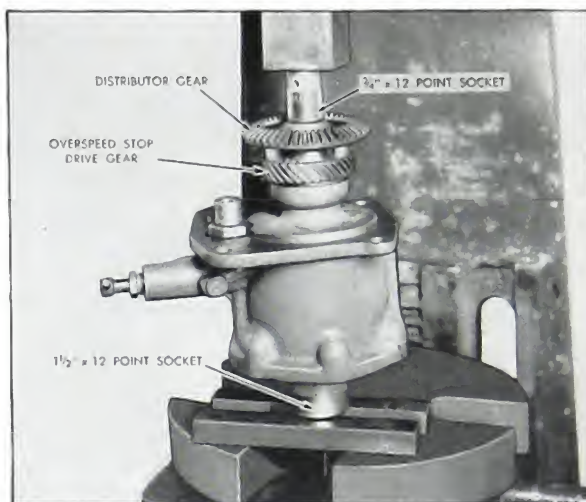

Fig. 5-74. Assembly distributor drive gear
2. Assemble the distributor, drive shaft and collar assembly to the housing and press the gear in place over the key. Using nesting block, ST-4, or a $1\frac{1}{2}$ " x 12 point socket as shown in Fig. 5-74, while pressing the gear in place.